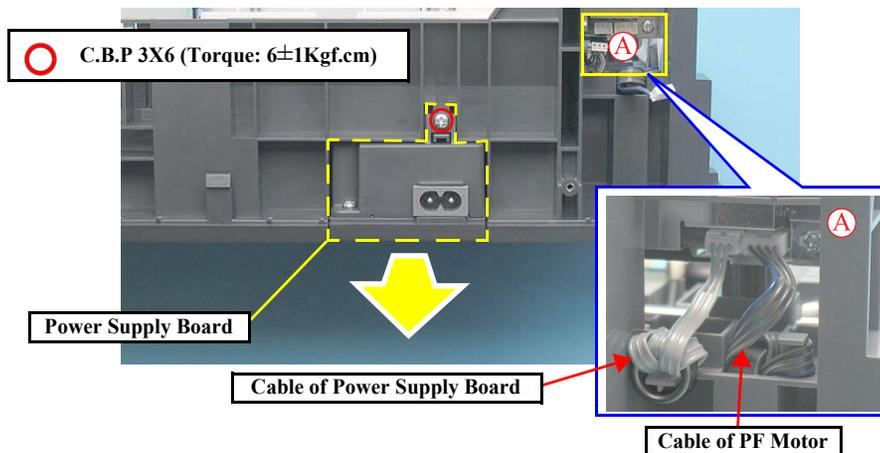

Figure 4-45. Removing Power Supply Board (2)
When installing the Power Supply Board, arrange the cable into the slit ①, ② and place the ferrite core into the hook in the area Ⓐ of Figure 4-45 (p.53).